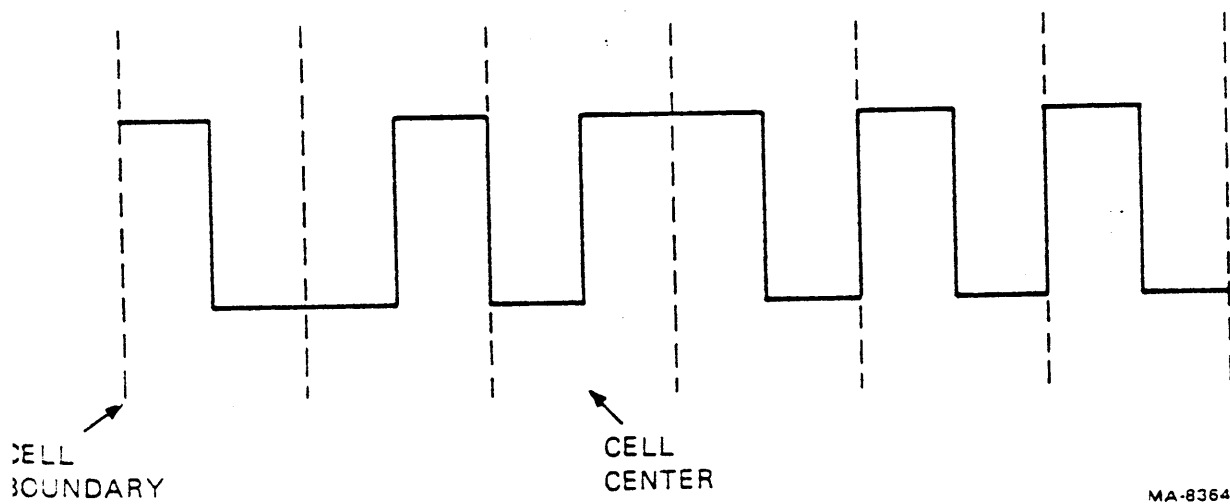

Figure E-1 PE Data
1. Identify the data string shown in Figure E-1.